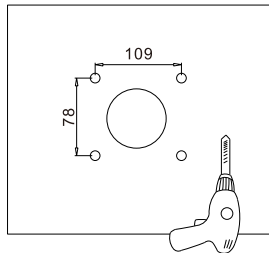

Figure 2-1
1. Cut holes on the wall according to locating plate. (Figure 2-1)